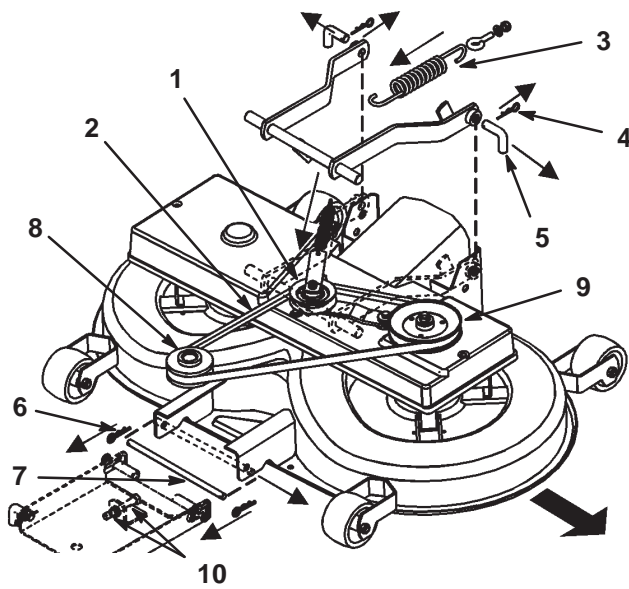

Figure 39
3. Pull the idler arm assembly in and remove the V-belt from the pulley (Fig. 39).
4. Disconnect the spring from the engagement lever (Fig. 39).
- Remove the hairpin clips from the two rear pins and remove the pins (Fig. 39). A pliers may be needed to pull the second pin out.
- Remove the hairpin clip from the front pin and remove the pin (Fig. 39).
- Remove the V-belt from the engine pulley (Fig. 39).
- Remove the V-belt pulley and idler arm assembly (Fig. 39).
- Move the lower pin of the front adjustment suspension into the bottom position of the slotted holes by adjusting the 2 nuts (M12) on the front suspension (Fig. 39).